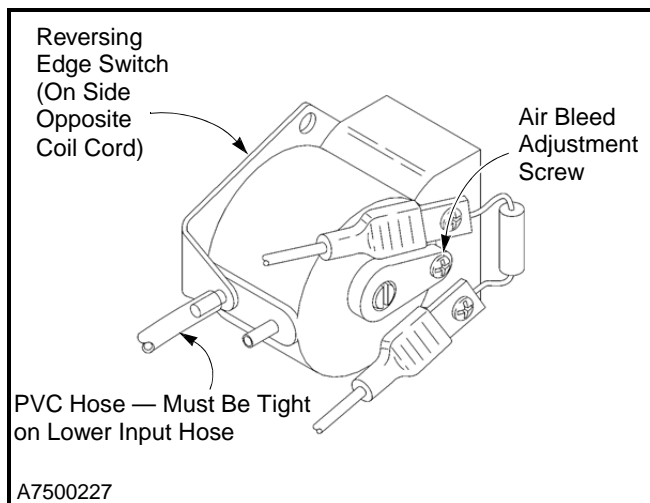

Figure 34
2. Make sure the clear PVC hose is in tight contact with the air input post so that air leakage cannot occur and that vibration will not cause the hose to fall off. Make sure the hose is not kinked. (See Figure 34)